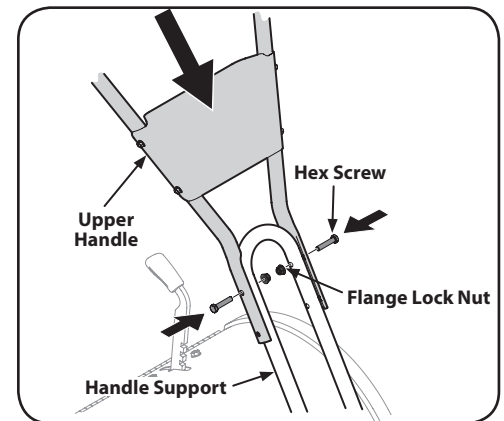

Figure 2-2
2. Using two hex screws and two flange lock nuts, loosely attach the handlebar support using the upper holes. See Figure 2-2.